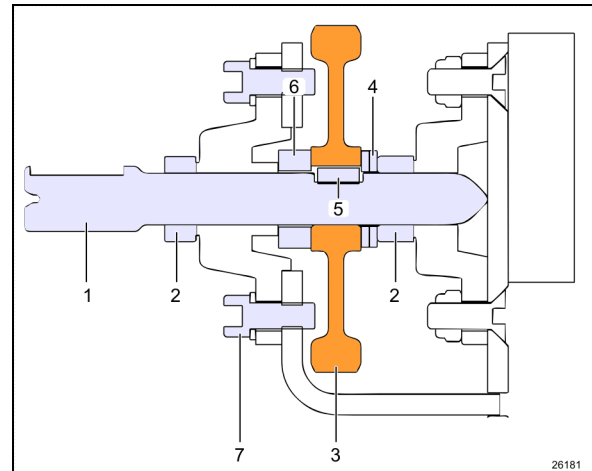

FIGURE 40: PINION ASSEMBLY SECTION VIEW.
1. Unscrew all set screws on the drive shaft yokes (item 4 in TORQUE TABLES). Slide drive shaft towards gearbox to disengage
the yoke from the pinion shaft (item 1 in Figure 40).